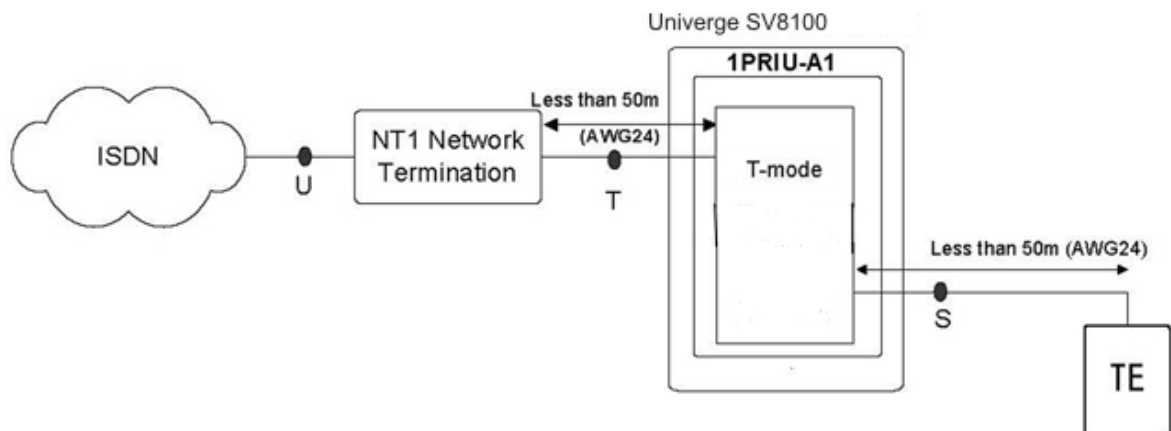

Figure 4-20 PRI Layout for NT-1 Network
3. Connect the cable from the NT1 Network Termination cable to the CN2 connector on the GCD-PRTA. (Refer to Figure 4-20 PRI Layout for NT-1 Network on page 4-75 for a cabling